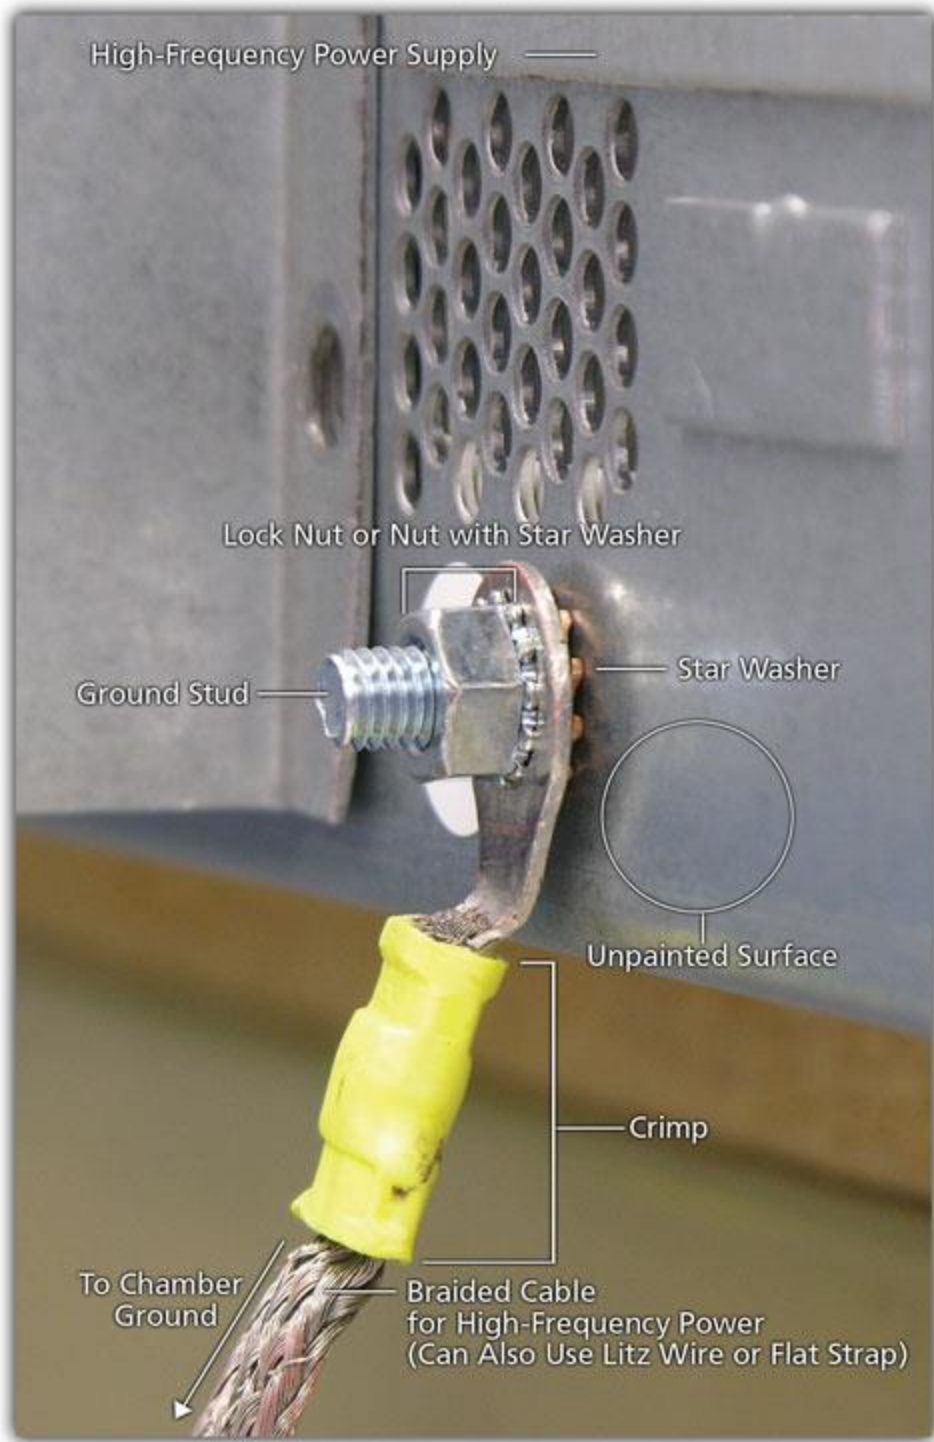

Figure 5. Close-up view of correct assembly of ground connection to Pinnacle® chassis
*Assemble your ground connection correctly at the power supply chassis.* Figure 5 shows a correctly assembled power supply ground connection. The star washer between the end of the flat braid and the power supply chassis resists oxidation and therefore helps maintain the ground connection over the long term.
*Connect grounds from the chamber to the power supply and ultimately to the building.* This ensures that your system ground terminates securely in the earth. An earth ground is more effective than a reference ground, and greatly helps prevent EMI, noise, electric shock to personnel, and all of the other problems associated with improper grounding. Figure 5 (above) shows a flat braid ground cable leading from the power supply to the vacuum chamber. Figures 6 and 7 (below) show a flat copper strap connected to the chamber and power supply.